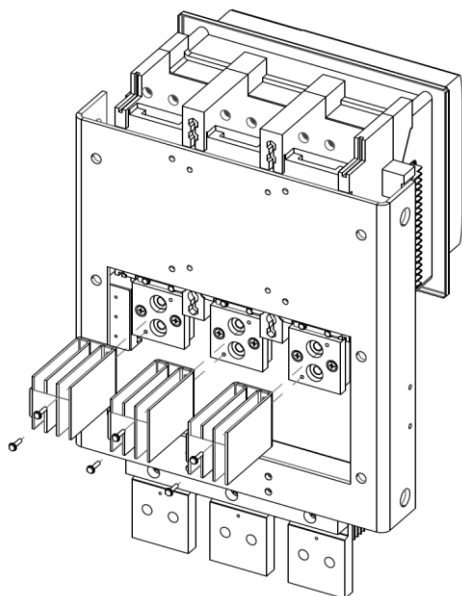

FIG.1 1200A-1600A TOP FEED SWITCH
2. HOLD HEAT SINKS IN PLACE AND START SCREWS IN THE HEAT SINK BRACKETS AS SHOWN IN FIG.1. TIGHTEN ALL SCREWS 30 IN-LBS.